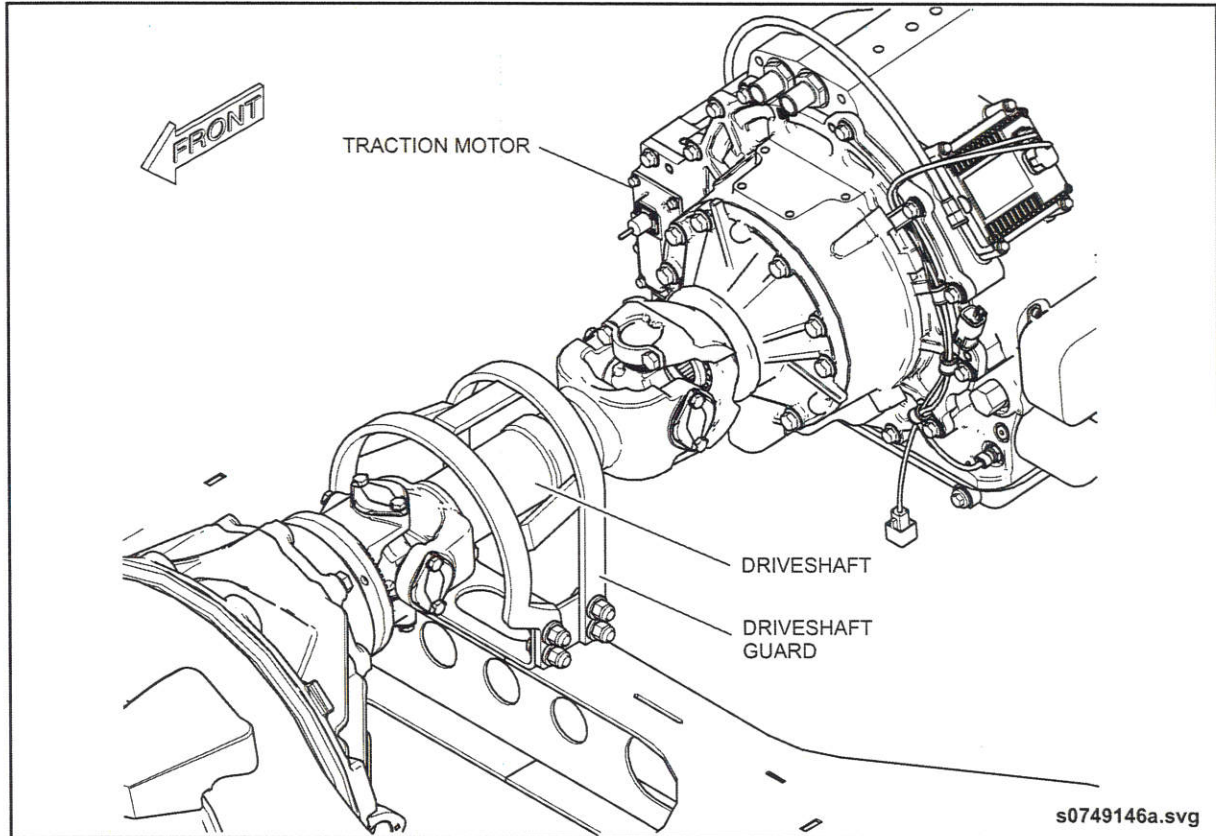

Fig. 4-3: Disconnecting the Driveshaft
10. Disconnect the driveshaft from the traction motor. Allow the driveshaft to hang onto the rear axle bunk. See "Fig. 4-3: Disconnecting the Driveshaft" on page 6.